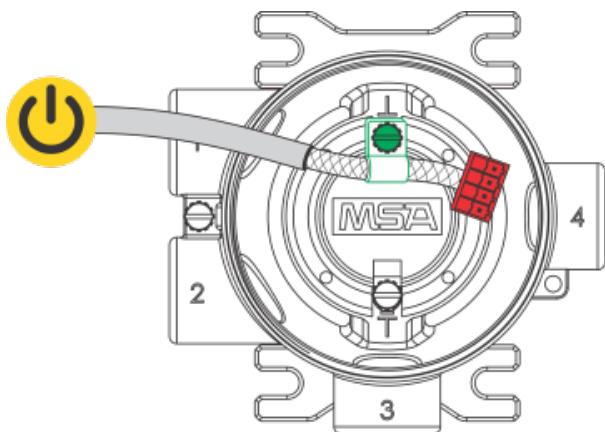

Figure 31 Connecting Power and Grounding Cable
11. Connect an XCell or XIR PLUS sensor using the green connector. Sensor wires are already connected as shown on the cover plate (see Figure 31):